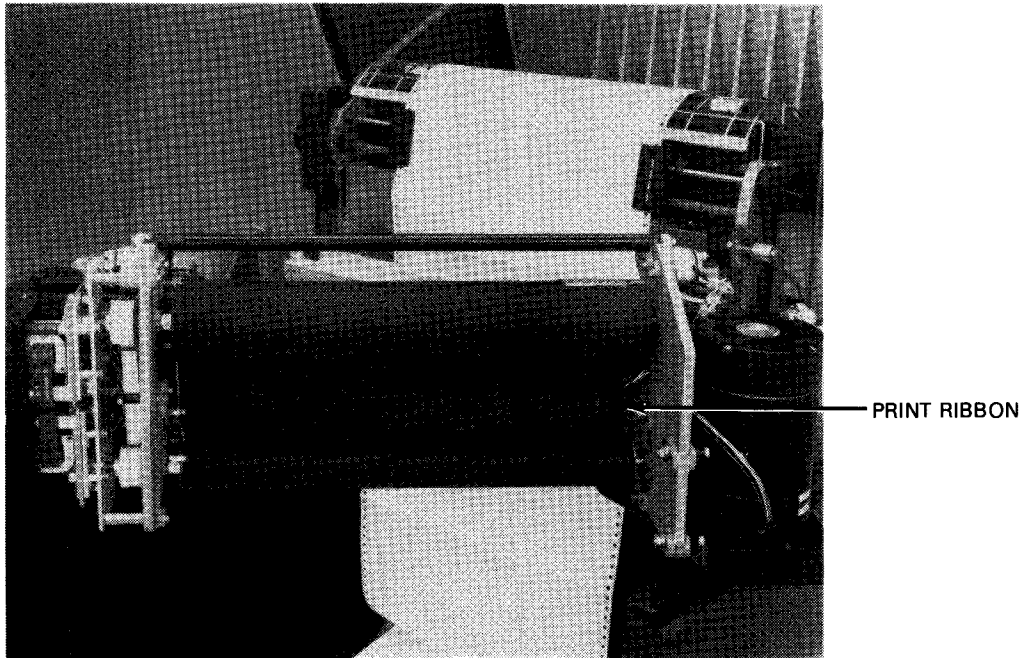

Figure 5—103. Print Ribbon in Reverse Thread Position
4. Turn the two captive thumbscrews on the print carriage (Figure 5—104) until they are disengaged from the print carriage.